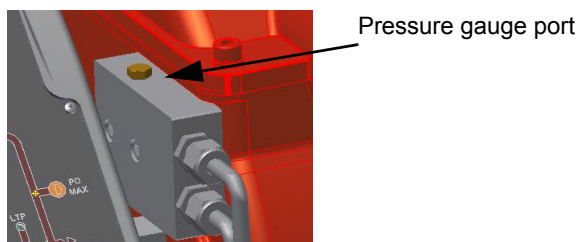
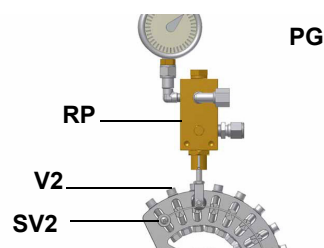

Fig. 11
Fig. 12
- (RD) I High flame
- (BU) II Stand-by
- (OG) III Low flame - gas
- (YE) IV Low flame - oil
- (BK) V Ignition - oil
- (GN) VI Ignition - gas
- 9 the nozzle supply pressure is already factory-set and must not be changed. Only if necessary, adjust the supply pressure as follows (see related paragraph); insert a pressure gauge into the port shown on Fig. 12 and act on on the pump adjusting screw **VR** (see Fig. 11) as to get the nozzle pressure at 20bar (Monarch or Fluidics nozzles - see page 40-34).